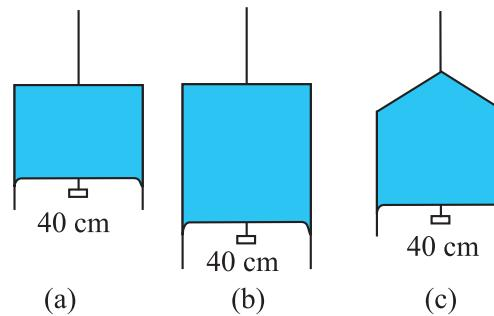

Fig. 10.24
- 10.18** Figure 10.24 (a) shows a thin liquid film supporting a small weight = $4.5 \times 10^{-2} \text{ N}$. What is the weight supported by a film of the same liquid at the same temperature in Fig. (b) and (c) ? Explain your answer physically.